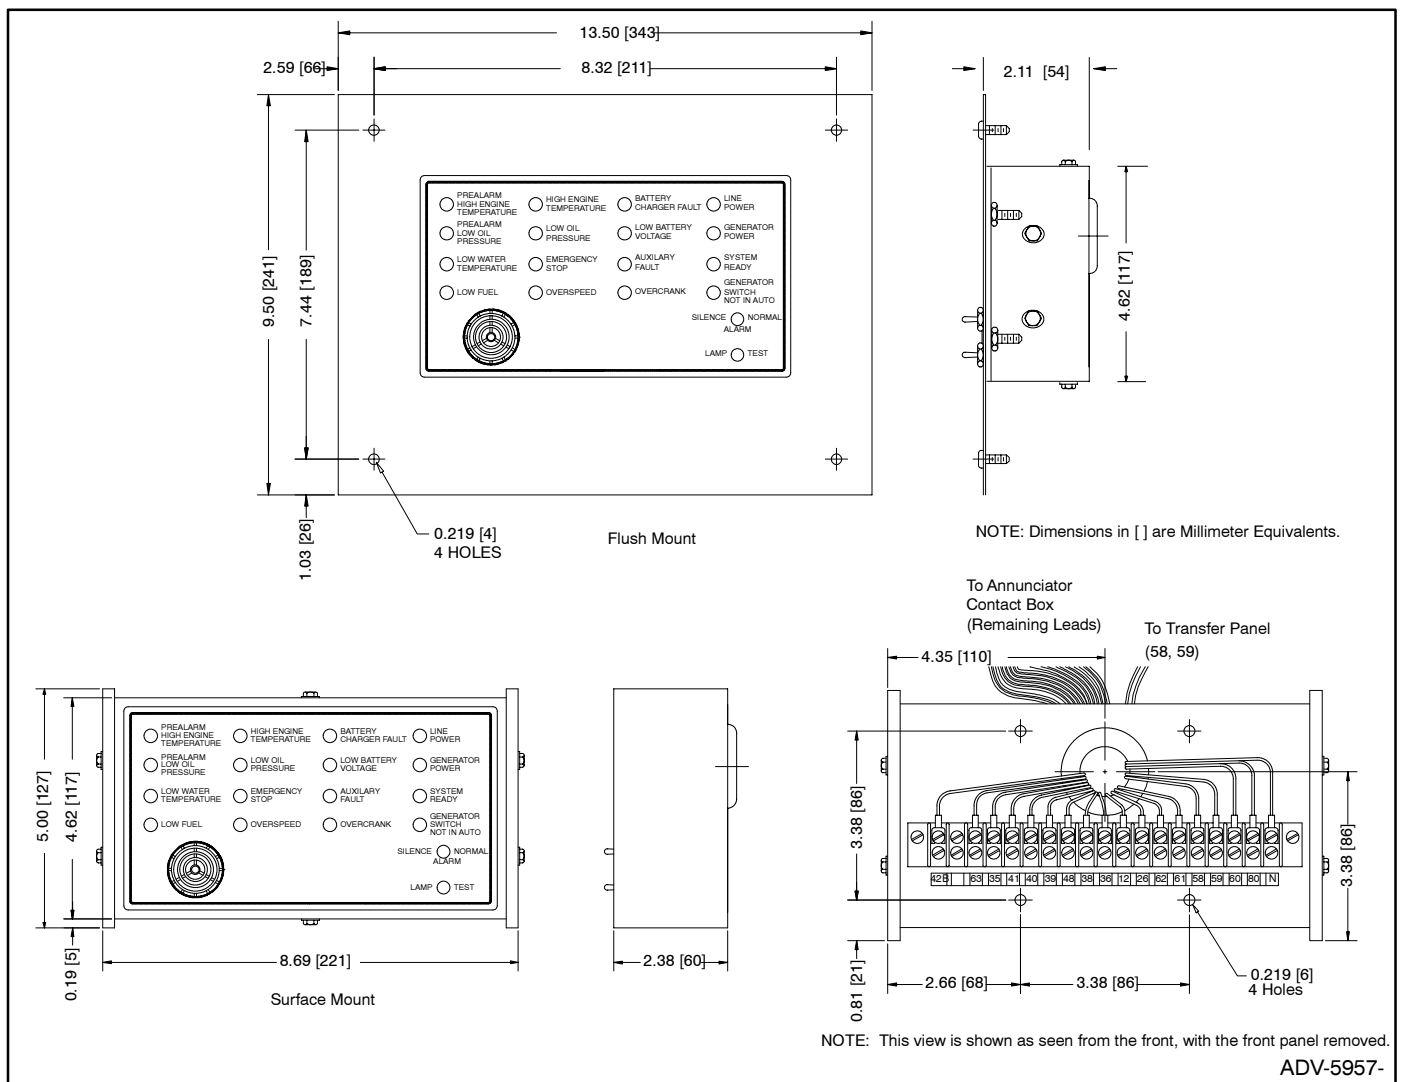

Figure 7. Component Dimensions
mounting, if used. See Figure 7 for remote annunciator dimensions and mounting hole dimensions.
3. After wiring the 14-relay dry contact box to the annunciator panel, mount the back panel of the annunciator to the wall. See Figure 7 for mounting hole dimensions. Protect the annunciator from dust and debris when drilling the holes.